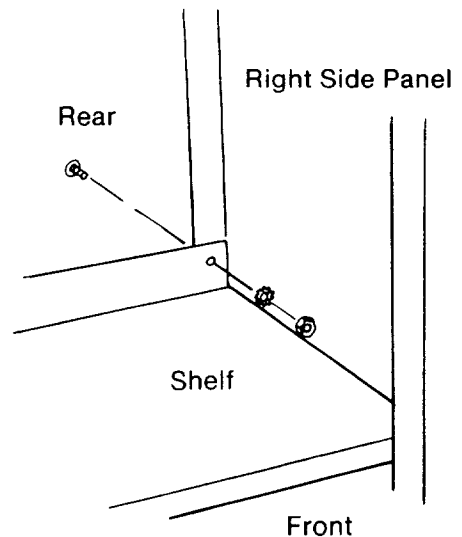

Fig. 54
24. Put a truss head bolt through the hole at the back, right corner of the *shelf*. This hole goes through the *shelf* and the *right side panel*. (Figure 54)